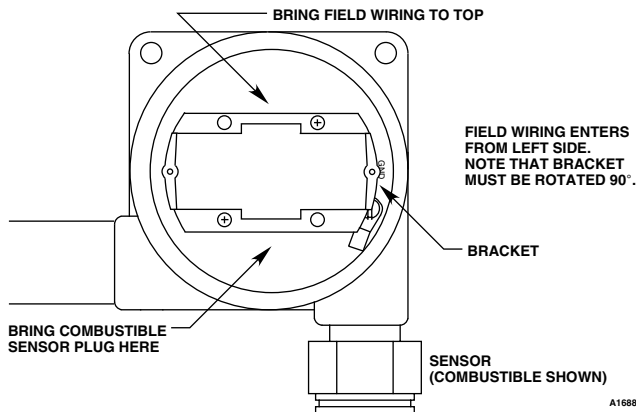

Figure 4—Field Wiring Entries and Transmitter Bracket Orientation
- Figure 4 — Field Wiring Entries and Transmitter Bracket Orientation
The transmitter can be oriented either way within the bracket (180° difference) and the bracket can be rotated 90° to achieve the necessary orientation. See Figure 4 for left and right field wiring entry and corresponding bracket orientation. Make sure that the display is oriented correctly, then proceed with transmitter wiring.